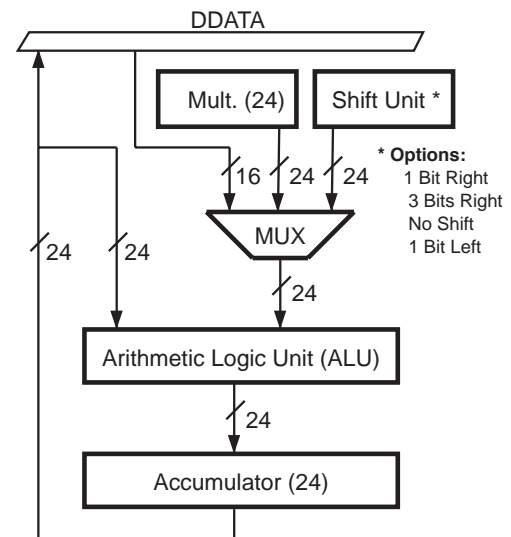

Figure 17. ALU Block Diagram
**ALU.** The ALU has two input ports, one of which is connected to the output of the 24-bit Accumulator. The other input is connected to the 24-bit P-Bus, the upper 16 bits of which are connected to the 16-bit D-Bus. A shifter between the P-Bus and the ALU input port can shift the data by three bits right, one bit right, one bit left or no shift (Figure 17).